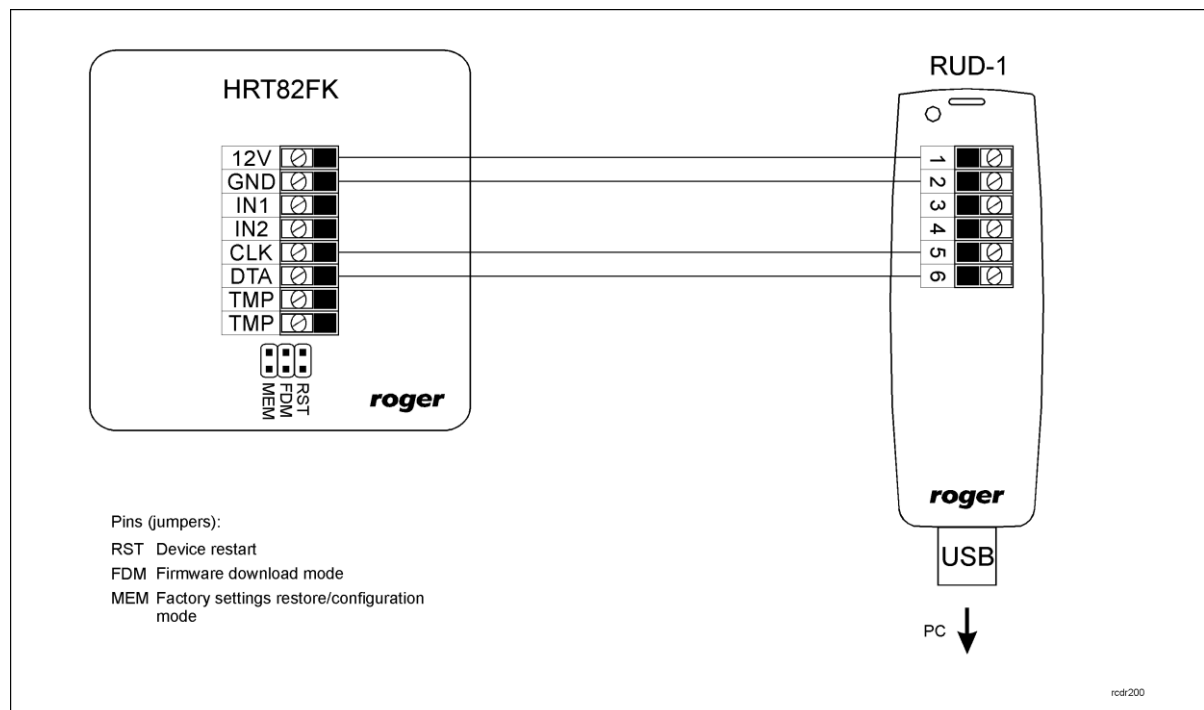

Fig. 5 HRT82FK and RUD-1 connection
1. Connect device to RUD-1 communication interface according to fig. 5
5. In the opened window select device, firmware version, communication channel and serial port with connected RUD-1 – see fig. 5